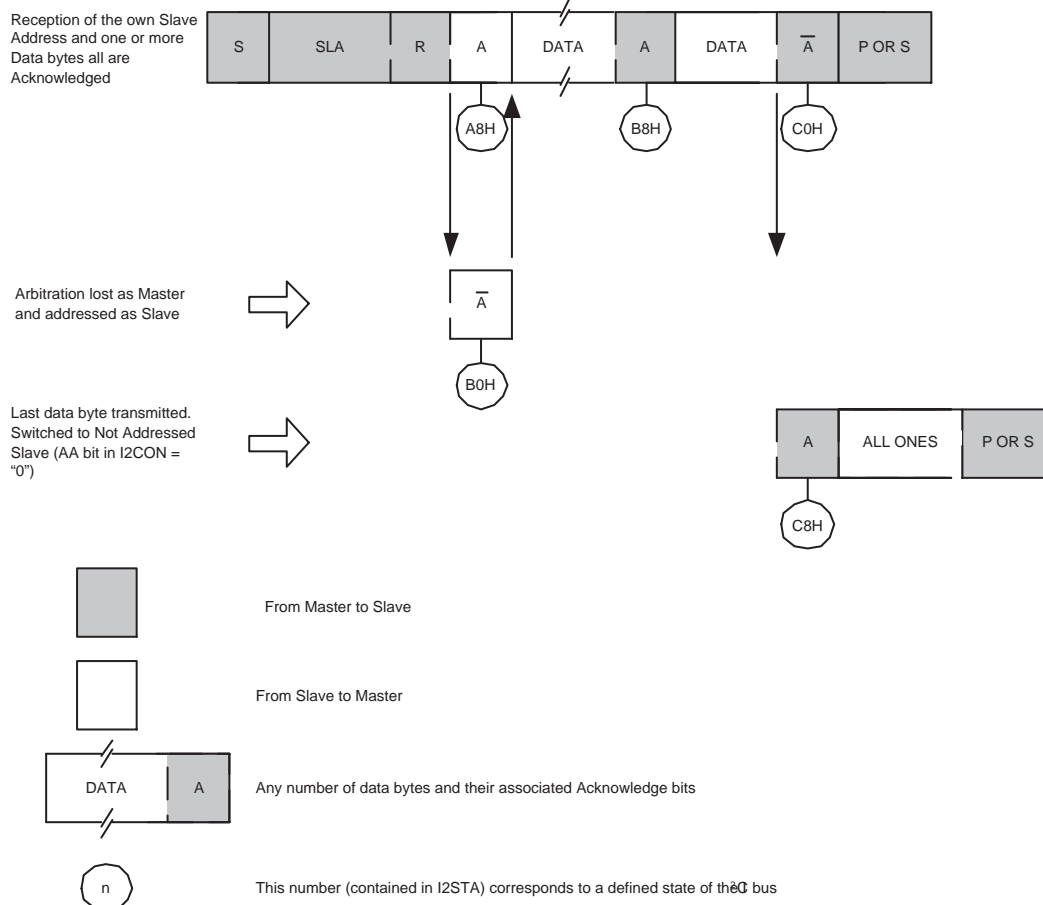

Fig 32. Format and States in the Slave Transmitter mode
In the slave transmitter mode, a number of data bytes are transmitted to a master receiver (see Figure 32). Data transfer is initialized as in the slave receiver mode. When I2ADR and I2CON have been initialized, the I²C block waits until it is addressed by its own slave address followed by the data direction bit which must be "1" (R) for the I²C block to operate in the slave transmitter mode. After its own slave address and the R bit have been received, the serial interrupt flag (SI) is set and a valid status code can be read from I2STAT. This status code is used to vector to a state service routine, and the appropriate action to be taken for each of these status codes is detailed in Table 123. The slave transmitter mode may also be entered if arbitration is lost while the I²C block is in the master mode (see state 0xB0).